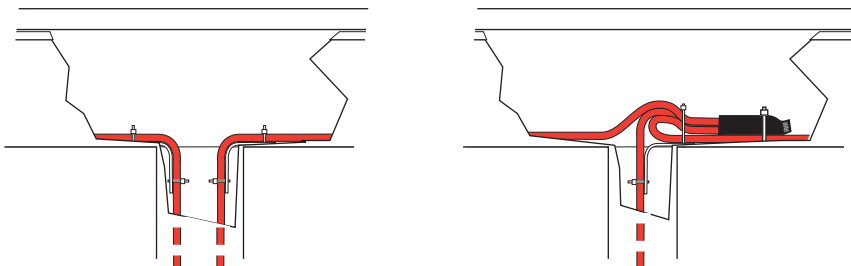
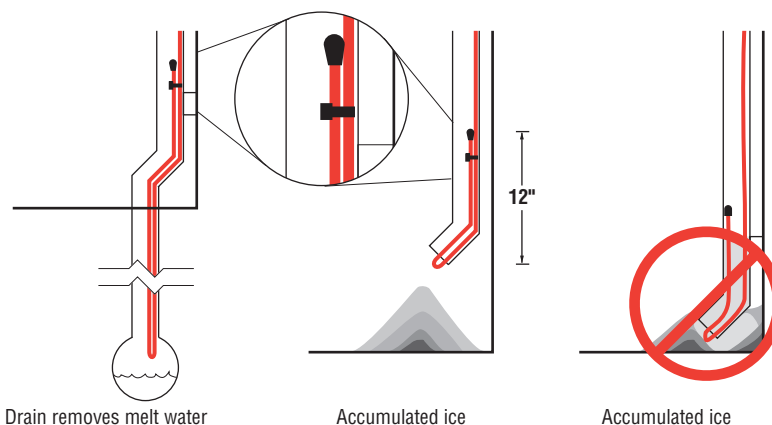

Fig. 16 Heating cable at top of downspout
Fig. 17 Heating cable at bottom of downspout
- External downspouts and scuppers must be treated carefully. A path must be provided for the valley/perimeter heating cable to the point of discharge (see Figure 17 on page 15).
Ice may form in downspouts and prevent melt water from escaping from the roof. To maintain a continuous path for melt water to run off, run the heating cable inside the downspout to the end as shown in Figure 16 and Figure 17 below. Follow the appropriate attachment recommendations in “Step 6 Select attachment accessories and method,” page 21. Additional heating cable may be needed for the roof surface, gutters, and valleys.